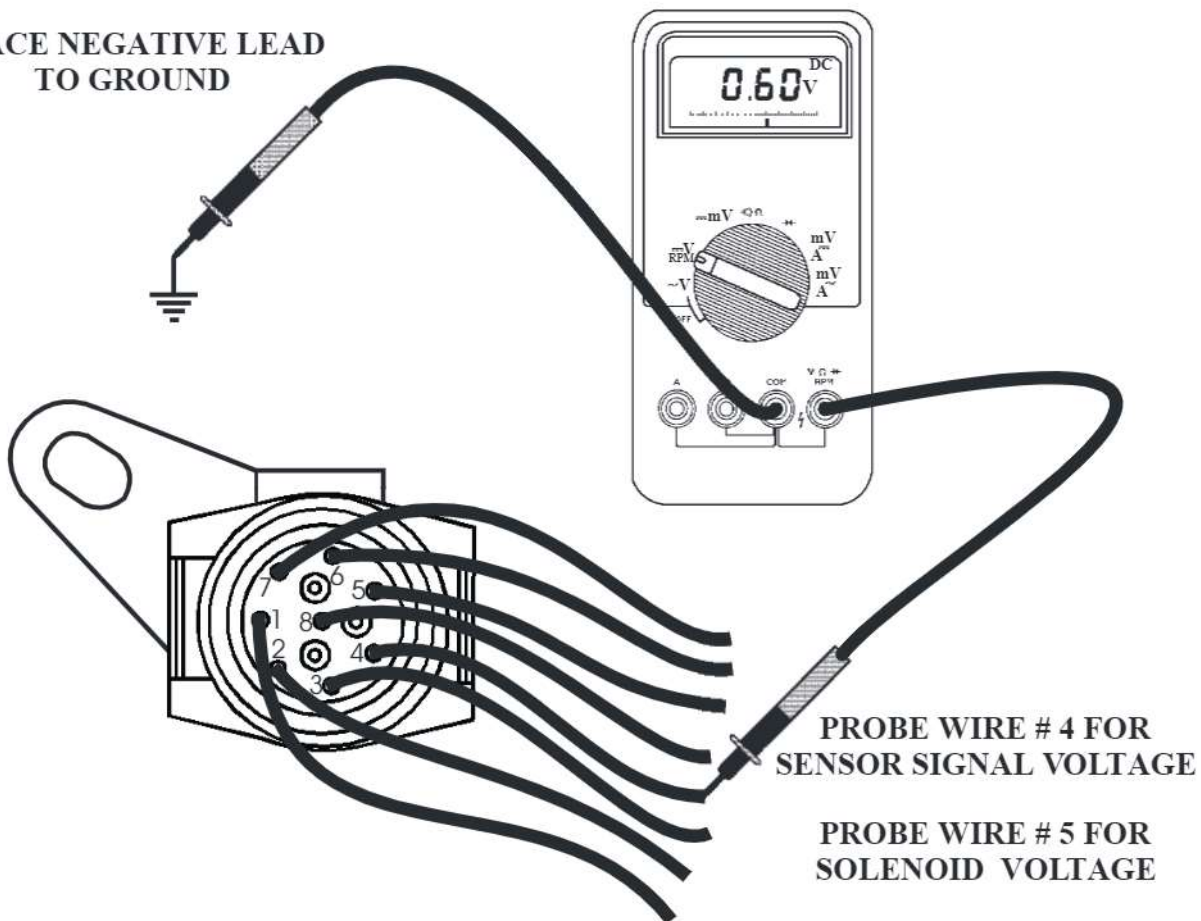

Figure 3
- (d) Maintain the ground lead to a known good ground and carefully backprobe into wire number 5 (Governor Pressure Solenoid) with the positive lead (See Figure 3). Again using the chart in Figure 4, compare the voltage values for the governor pressure solenoid, to the actual governor pressure indicated on the gauge.